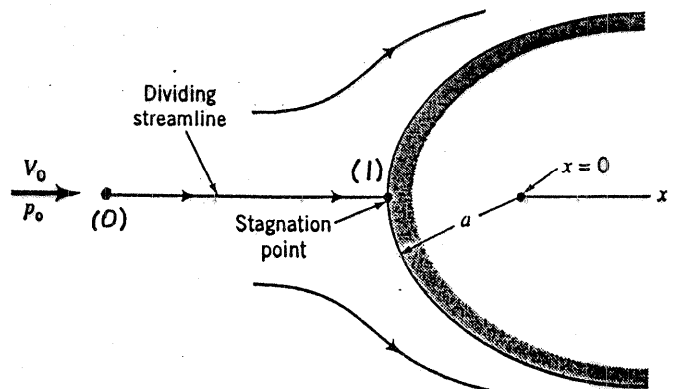

FIGURE P3.3
3.3 An incompressible fluid with density ρ flows steadily past the object shown in Video V3.3 and Fig. P3.3. The fluid velocity along the horizontal dividing streamline ($-\infty \leq x \leq -a$) is found to be $V = V_0(1 + a/x)$, where a is the radius of curvature of the front of the object and V_0 is the upstream velocity. (a) Determine the pressure gradient along this streamline. (b) If the upstream pressure is p_0 , integrate the pressure gradient to obtain the pressure $p(x)$ for $-\infty \leq x \leq -a$. (c) Show from the result of part (b) that the pressure at the stagnation point ($x = -a$) is $p_0 + \rho V_0^2/2$, as expected from the Bernoulli equation.